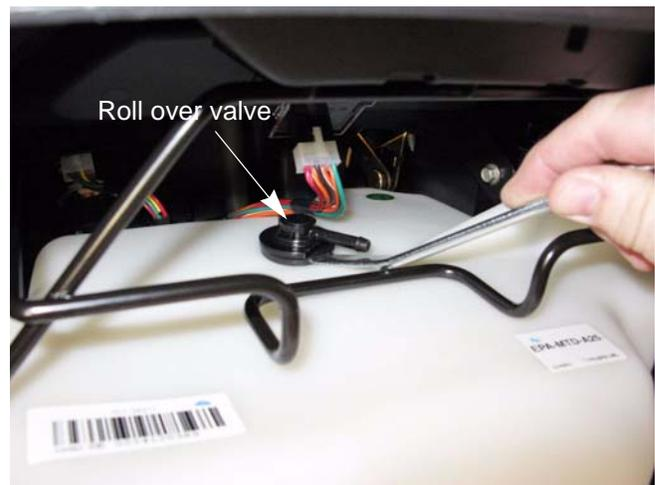

Figure 2.12
3. Gently pry the roll over valve out of the fuel tank. See Figure 2.12.